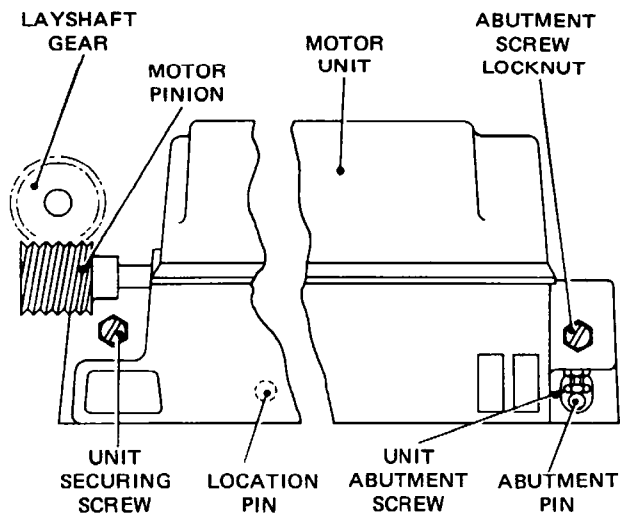

Fig. 4.108 MOTOR UNIT
- 117.1 Turn the machine by hand and check that the motor pinion and layshaft gear, Fig. 4.108, mesh closely without any evidence of binding.